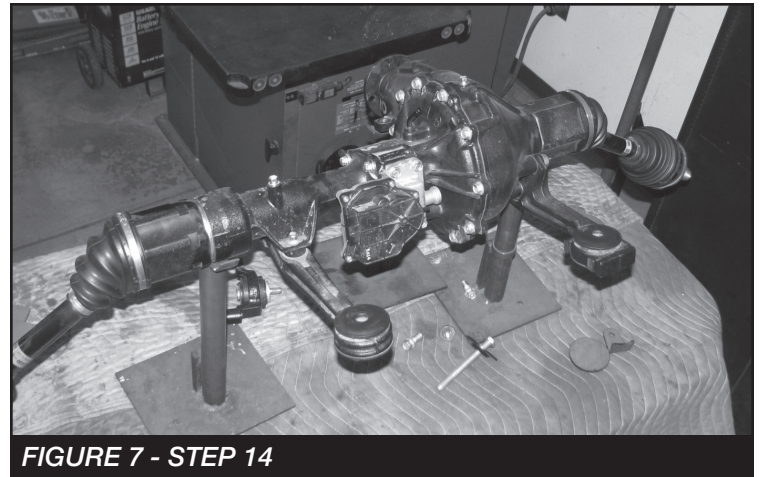

FIGURE 7 - STEP 14
14. Support the front differential with a transmission or floor jack. Disconnect all electrical, vacuum lines, and breather lines from the differential. Remove the rear differential nut and save as you will reuse it during assembly. Remove the two front differential bracket bolts from the frame. Discard the bolts, as you will not reuse them. **DO NOT SEPARATE THE C.V. AXLES FROM THE DIFFERENTIAL.** Remove the differential from the truck and set aside. **USE CARE WHEN REMOVING DIFFERENTIAL AS TO NOT DAMAGE THE C.V. Axels and 4WD VACUUM ACTUATOR ASSEMBLY. SEE FIGURE 7**